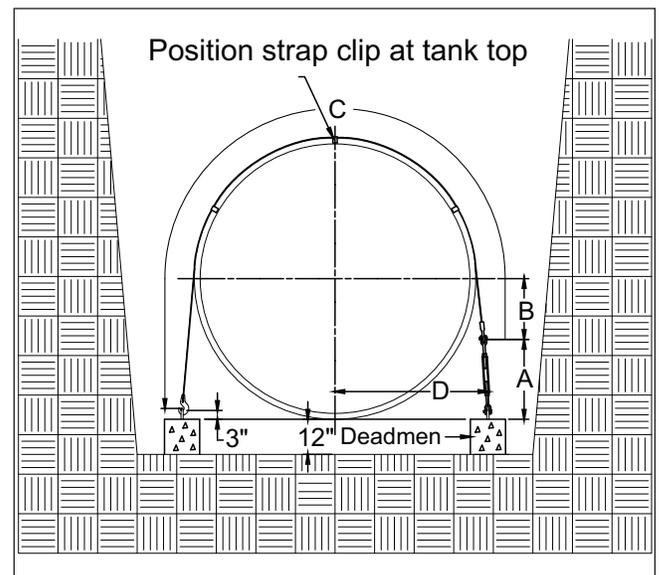

FIGURE 8-1
8.2.2.1. When installing any size tank, and when using Xerxes' D-ring/hook anchor straps and Xerxes' prefabricated deadmen, the deadmen are to be placed so that the top of the deadmen are even with the bottom of the tank. See FIGURE 8-1 and TABLE 8-1 for anchor-point dimensions.
Anchoring Dimensions for FIGURE 8-1
8.3.5. Locate the anchor points as shown in FIGURE 8-1 or 8-2 (whichever is applicable) and TABLE 8-1 or 8-2 (whichever is
8.5.2. For placement of Xerxes prefabricated deadmen, see FIGURE 8-1 or 8-2 (whichever is applicable) and the Xerxes supplement, *Prefabricated Deadmen Installation Instructions*.